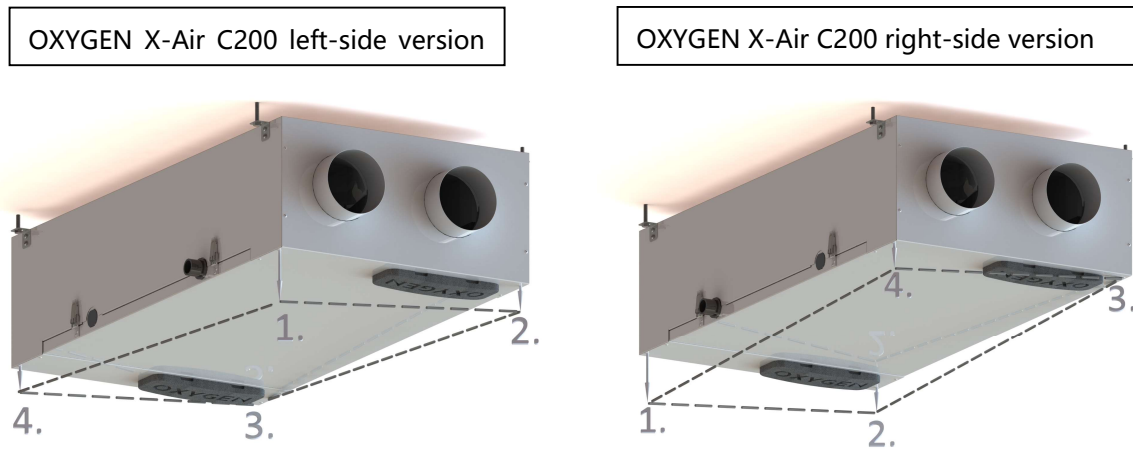

Figure 3. Horizontal installation diagram
**IMPORTANT!** After Unit installation, make sure that the condensate drain corner is positioned lower than remaining Unit corners (refer to Figure 3 "Horizontal installation diagram"). This will ensure smooth removal of accumulated condensate.